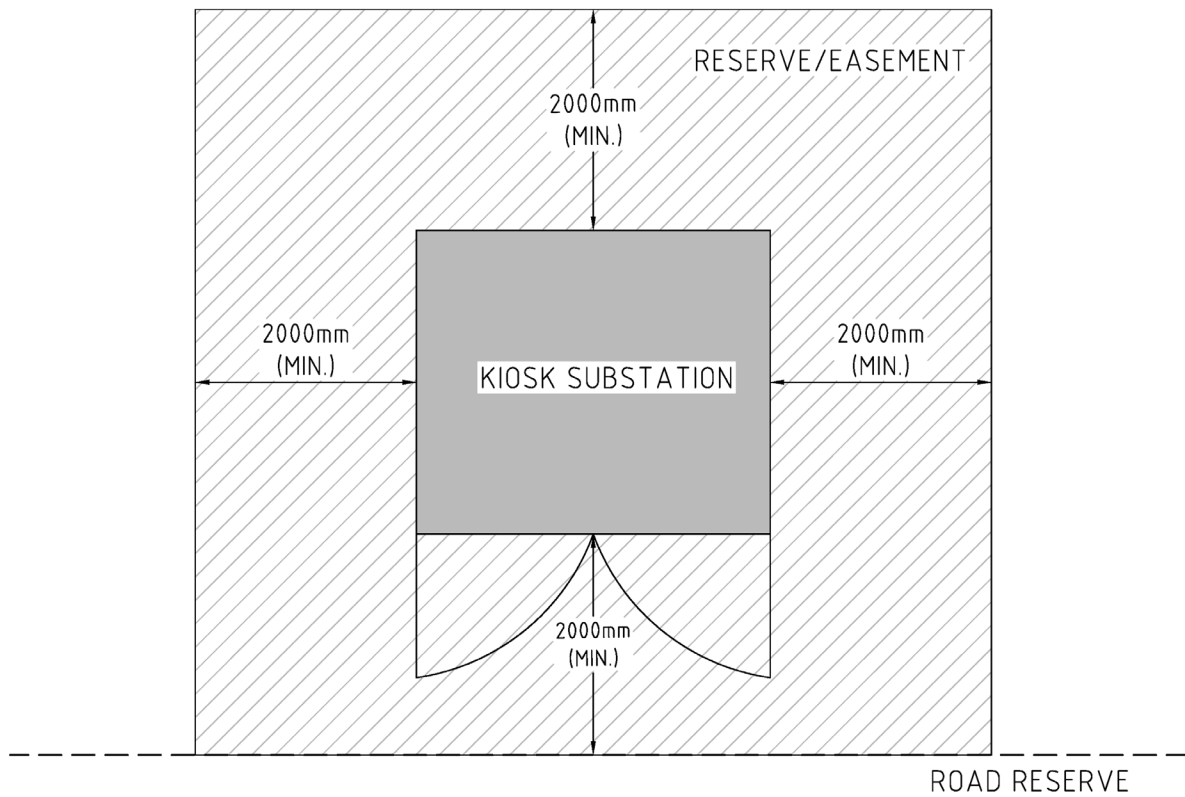

Figure 2 – Square Type 2 Kiosk
- 5.2. **Square type 2** – Kiosk substations are installed in reserves located in parks etc. as shown in fig 2. The front of the kiosk is not located at the road reserve. Kiosk transformers have both HV and LV compartments accessible from the front (i.e. side by side). Kiosk doors open in kiosk reserve/easement. The minimum kiosk reserve / easement requirements are given in table 2.